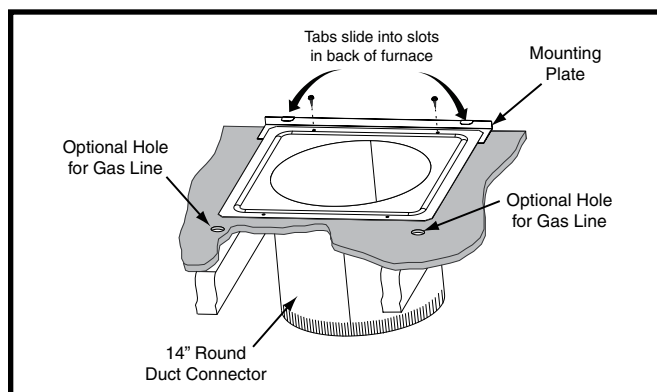

Figure 15. Round Duct Connector
2. Install the mounting plate (Figure 15 \(page 17\)) under the back side of the duct connector. **NOTE:** Make sure the screw holes are aligned in both components.